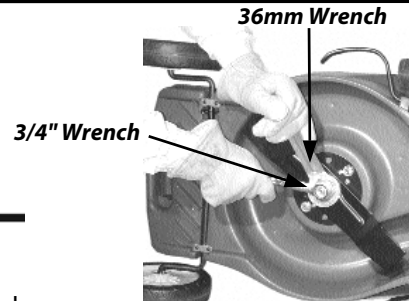

Figure 23
1. Place the 36mm Wrench over the Steel Hex Adapter (the large metal piece that holds the Blade in position) and place a 3/4" Wrench or Socket over the Blade Nut (**Figure 23**).
5. Place the 36mm Wrench over the Steel Hex Adapter, then place a 3/4" Wrench (or optional Torque Wrench with a 3/4" Socket) over the Blade Nut (**Figure 23**) and while holding the Hex Adapter in place; tighten the Blade Nut securely (16.6 Ft-Lbs) by turning clockwise. Again, be careful, hold the Hex Adapter firmly in place so that the Blade does not spin and strike your hand.